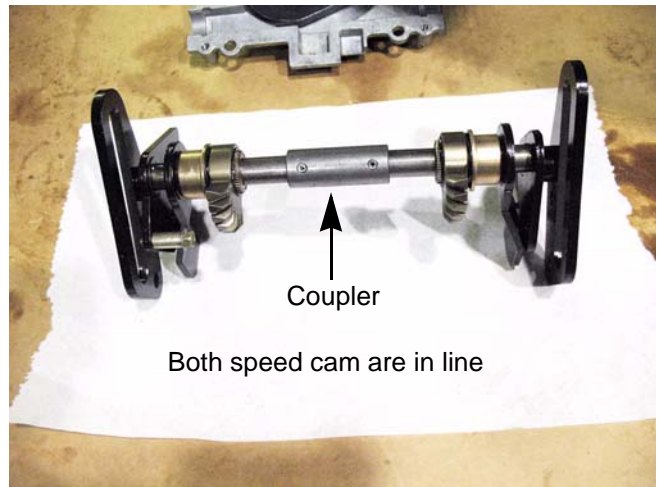

Figure 6.54
- 11. Place both output bevel gear assemblies on the bench, facing each other. With both assemblies resting on the same points of the speed cam, insert both shafts into the coupler. See Figure 6.54.